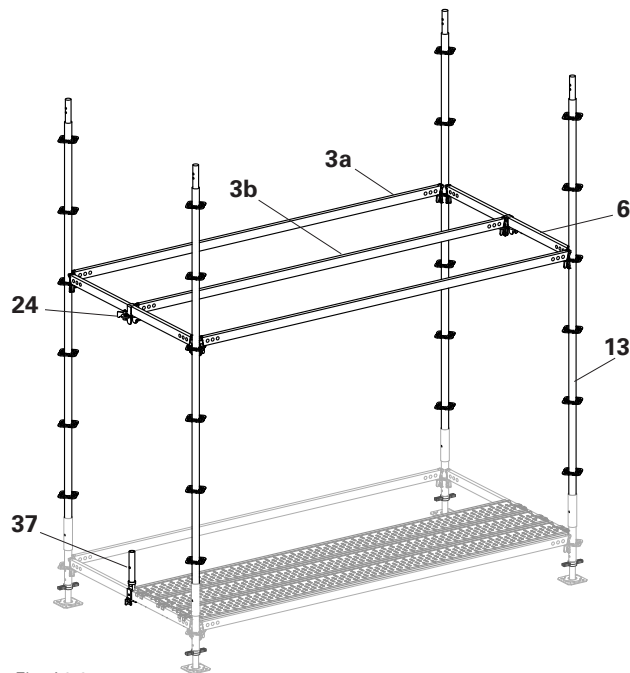

Fig. A3.04
5. Attach the UH Spigot-2 (**37**) to the Ledger UH-2 150 below. (Fig. A3.04)